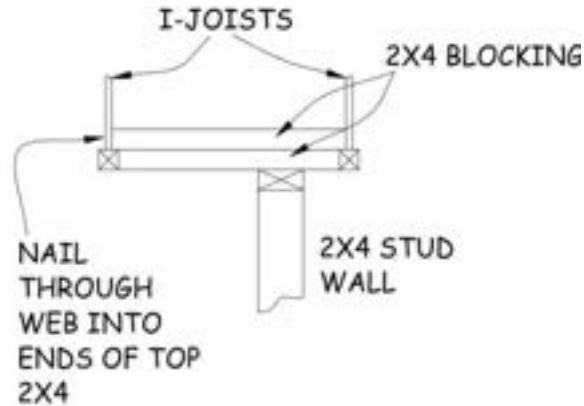

Figure 6-7. Blocking for Attaching Basement Walls Between I-joists.
13. Walls parallel to the I-joists require blocking at the top. Nail 2x4s between the bottom I-joist flanges at 24” O.C., flush with the bottom of the I-joist flange (see Figure 6-7).